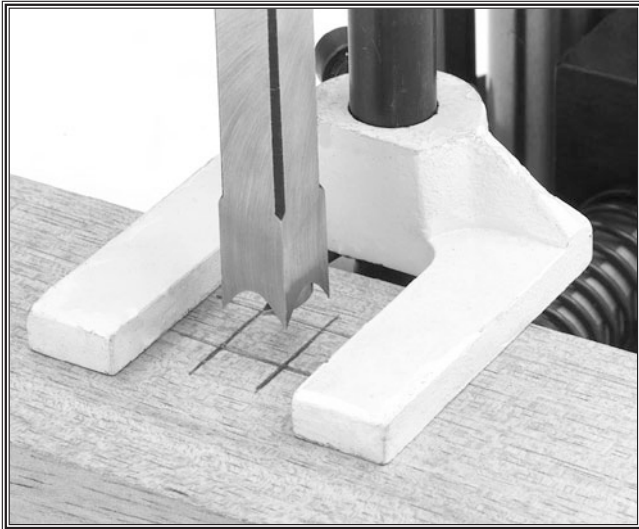

Figure 27. Aligning chisel to marked workpiece.
7. Unlock the fence and rotate the micro adjustable knob until the chisel lines up with the penciled in lines as in Figure 27.